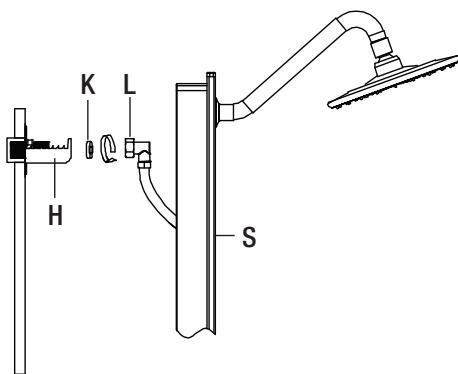

Fig. 23
- Connect L-fitting (L) to brass connector assembly using restrictor (K), see Fig. 23.